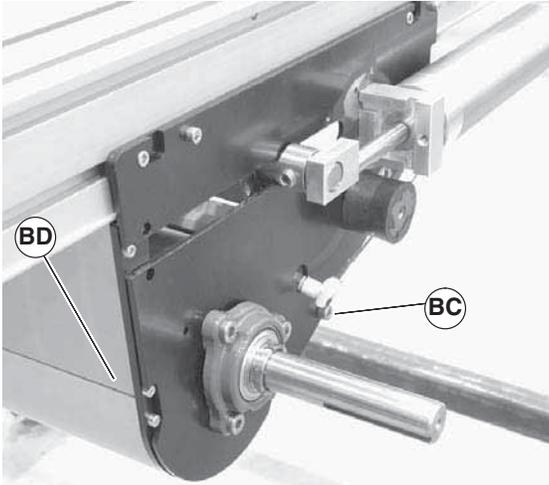
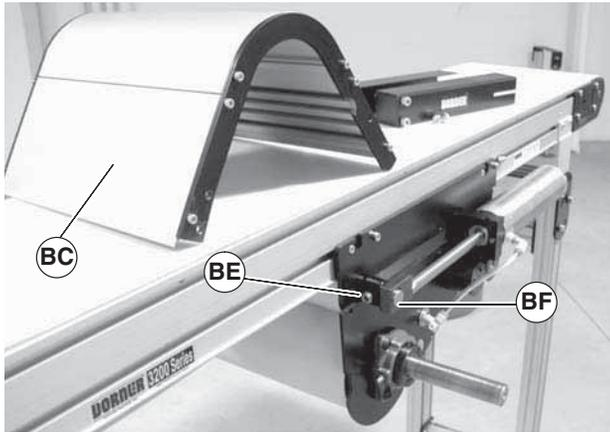
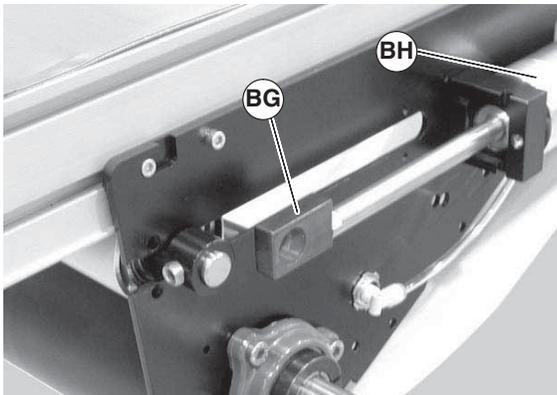

Figure 81
Figure 82
Figure 83
3. Temporarily support the tensioning roller guard (Figure 81, item BD). Remove screws (BC) on both sides of center drive and remove tensioning roller guard (Figure 81, item BD) and (Figure 82, item BD).
4. Loosen tensioning roller set screws (Figure 82, item BE) on one side of center drive.
5. Push shaft (Figure 81, item BF) through block, slide block (Figure 83, item BG) towards air cylinder (BH).